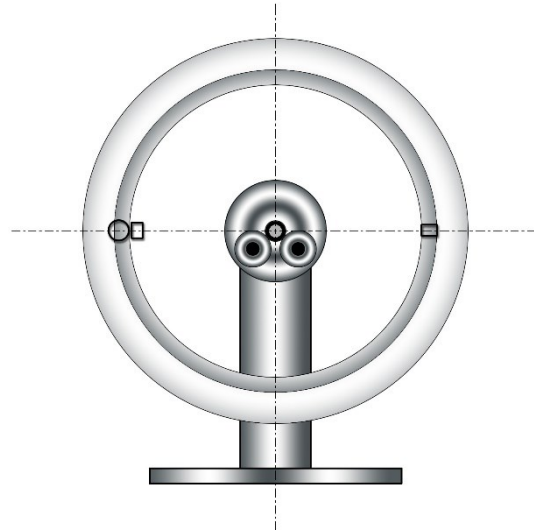

Figure 2 Resting position neutral rim
- At the lightest point, add a enough provisional weight so that the rim turns around 90° (see Fig. 2). For an empty rim, a maximum of 30 g of weight should be required. If you need more weight, you should check the rim and the attachments for damage. Check the tread.